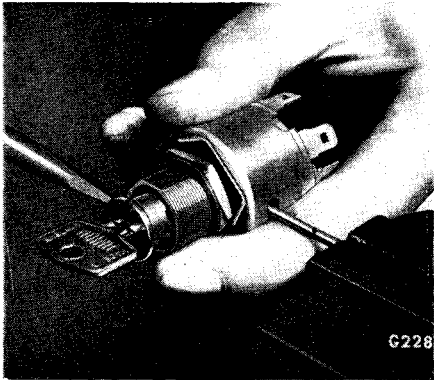

Fig. 28.
1. Secure suitable probe in vice as shown on Fig. 28.
3. With plunger depressed use screwdriver as shown on Fig. 28 to ease lock barrel from housing.